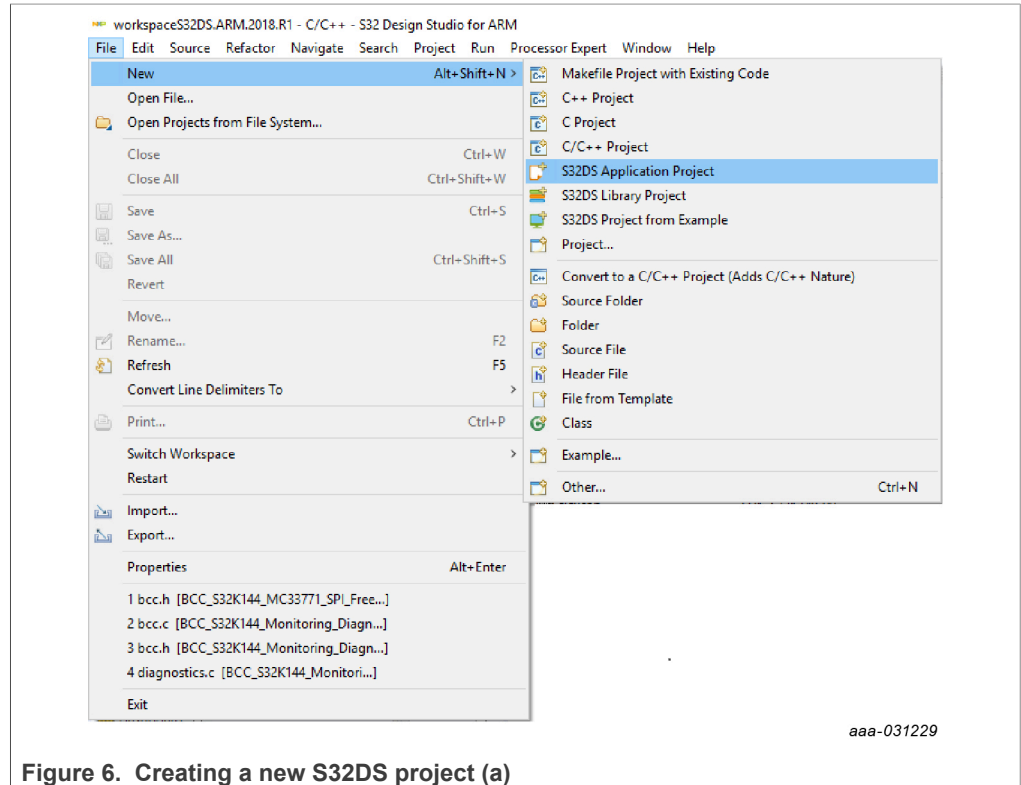

Figure 6. Creating a new S32DS project (a)
1. In the S32 Design Studio menu bar, click **File > New > S32DS Application Project**. See Figure 6.